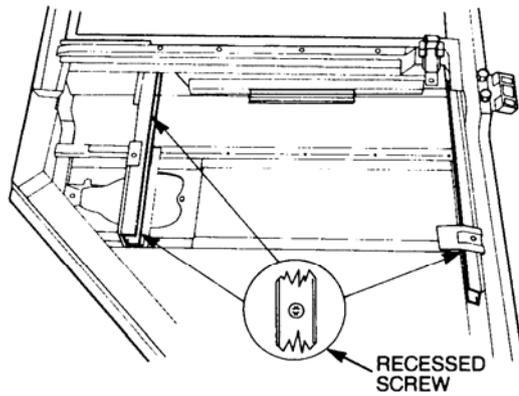

Figure 20 Window Channel Screws Removal
- dd.** Remove the recessed screws securing the lower ends of the window channels to the door frame (refer Figure 20).
- o. Align the lower channel mounting holes in the frame and secure it with the screws (refer Figure 20).